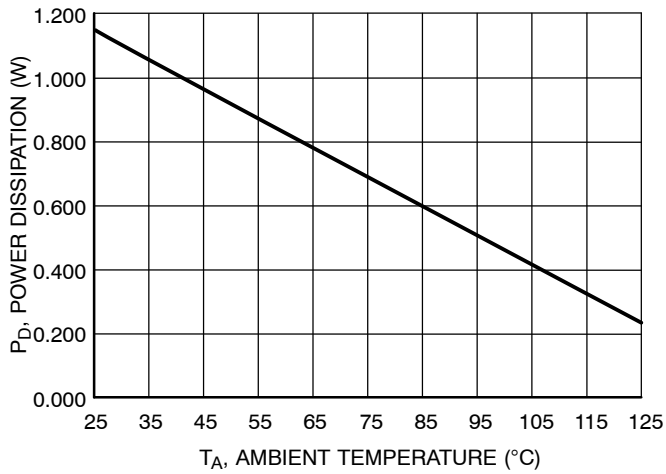

Figure 3. Total Power Dissipation (P_D) vs. Ambient Temperature (T_A)
9. If $P_{D_total} > 1.13 \text{ W}$ (or derated value per Figure 3), then select the most appropriate recourse and repeat steps 1–8: